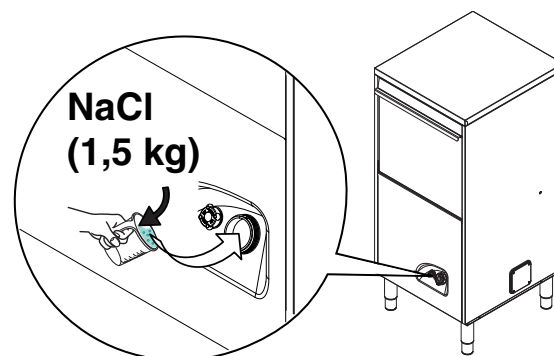

Fig. 24
- Pour approx. 1.5 kg of coarse salt [NaCl] in container "A" (an amount sufficient to fill the salt container up to the rim) using the special funnel supplied (Fig. 24).